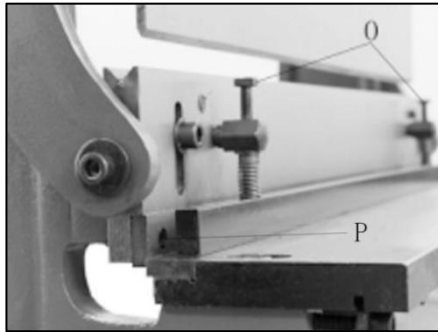

Figure 10
1. Remove hold-down by loosening screws (O, Figure 10), using 10mm hex key.
3. Remove 4 screws (P, Figure 10) and carefully remove blade.
4. Rotate or replace blade and re-install screws (P).
5. Re-install hold-down. When blade is in highest position, the gap between the hold-down and the table should be within 1/4". Adjust to this position by turning the two screws (O, Figure 10) as needed. When the blade starts its downward travel, the hold-down should immediately hold workpiece in place.